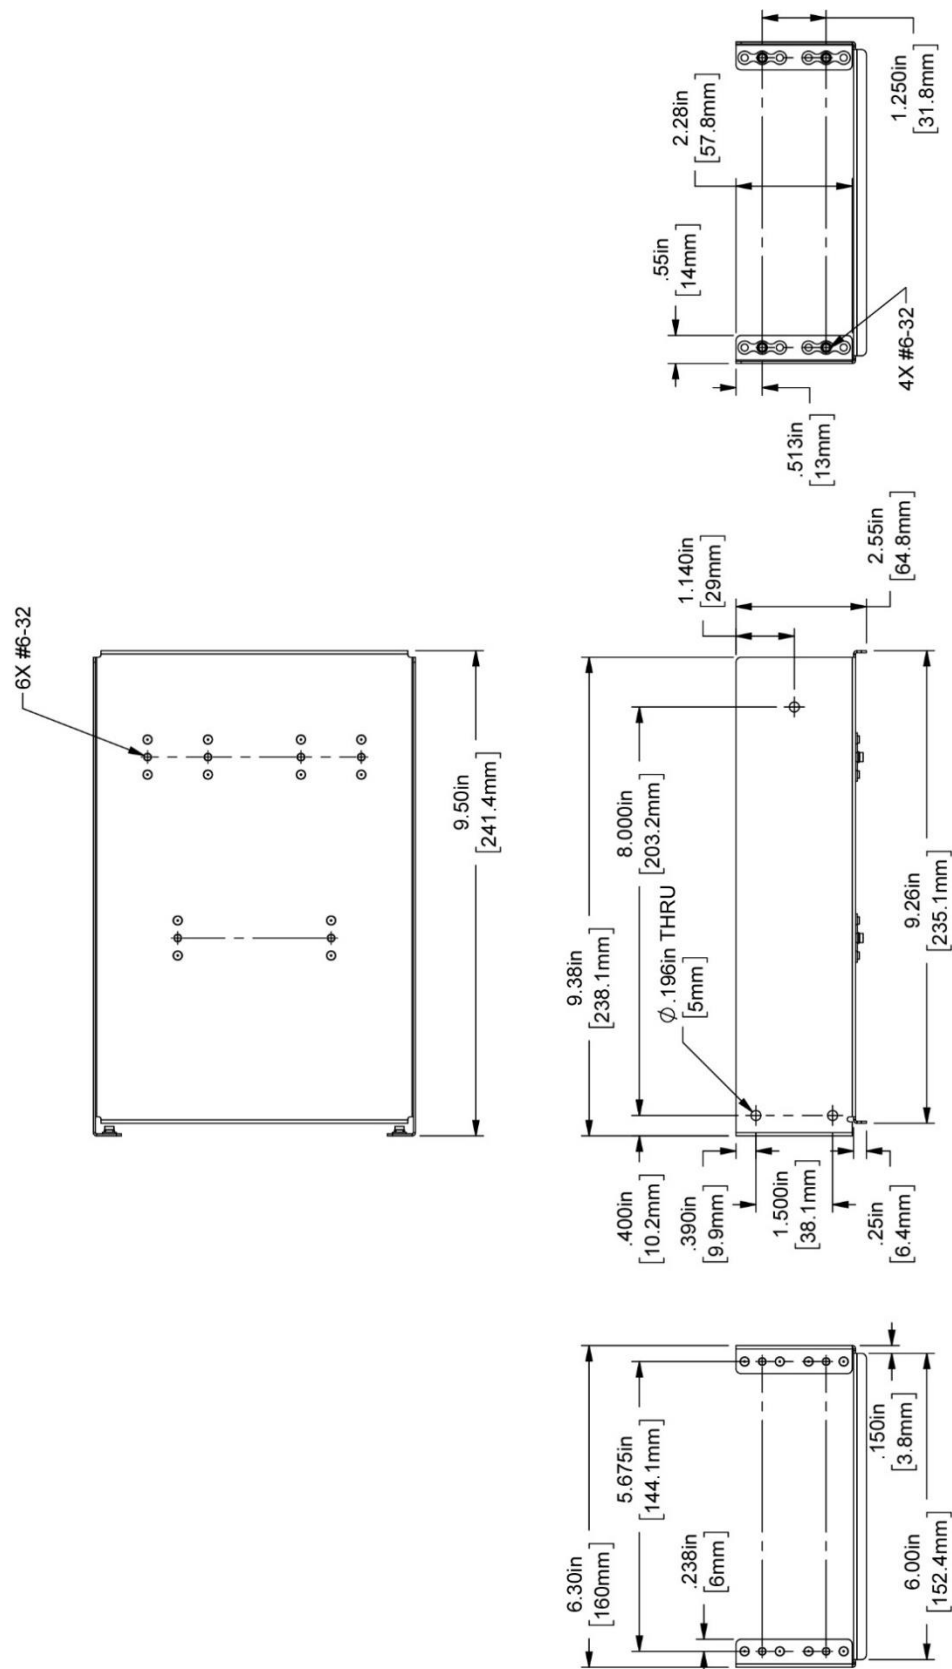

Figure 13 – Physical Dimensions for COM/XPNDR Radio Stack Module Mounting Kit
1. If needed, cut an opening in instrument panel using Figure 13 as a guide.